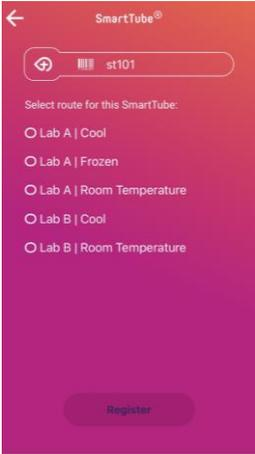

Figure 23i. Assign SmartTubes to routes.
- a) Tap the radio button to the desired route to select it. Only one route may be selected. After a route has been selected, the button will appear solid, and the “Register” button below will be enabled. (See Figure 23i and 23ii)
Figure 23ii. Assign SmartTubes to routes.